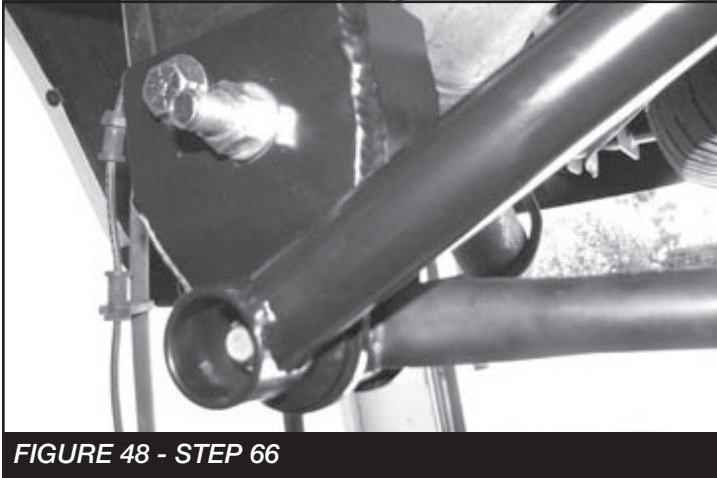

FIGURE 48 - STEP 66
66. Use the open $\frac{1}{2}$ " holes in the Fabtech bracket as guide to drill out the two holes for the locking bolts in the factory bracket. Insert the two $\frac{1}{2}$ " x 1" bolts into the new holes with nuts tabs FT5036. Torque to 90 ft-lbs. Torque the 14mm bolt in the stock pivot hole to a 160 ft-lbs. Torque the frame side of the trac bar support tube to 317 ft-lbs. **SEE FIGURE 48**